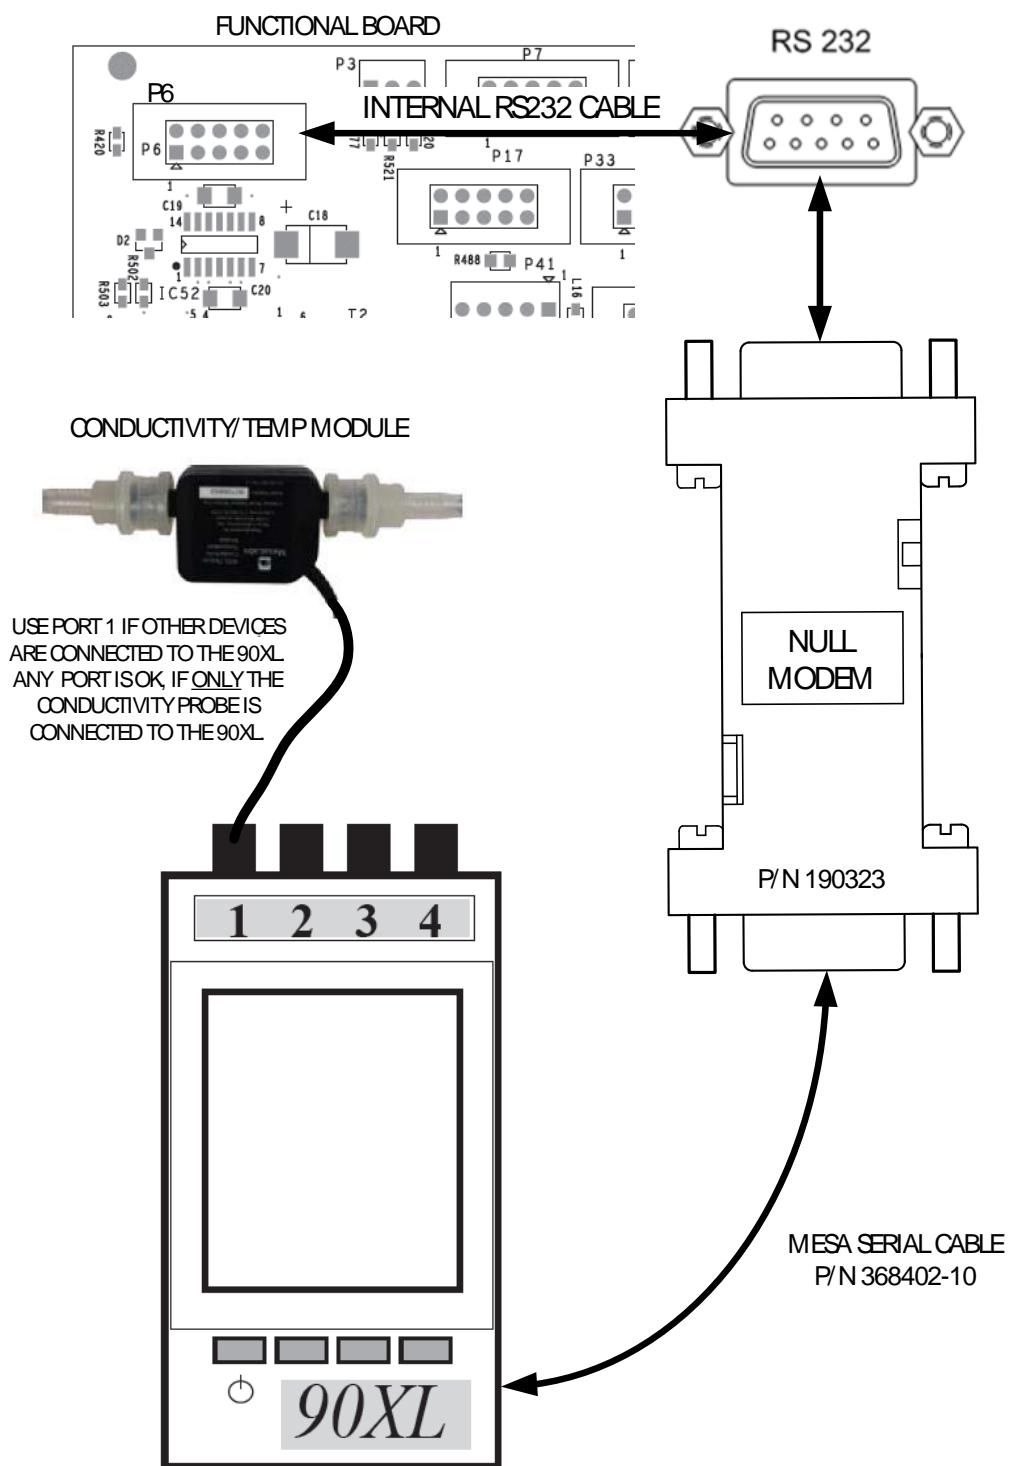

Figure 8 – Null Modem Connection to the 90XL
1. Using the Null Modem, connect the Mesa Serial Cable between the 90XL Dialysate Meter and the RS232 port on the rear of the card cage. Refer to Figure 8 for connection assistance.
Note: A No Comm To 90XL message will occur if the internal cable for the RS232 port is not connected to P6 on the Functional board (see Figure 8).